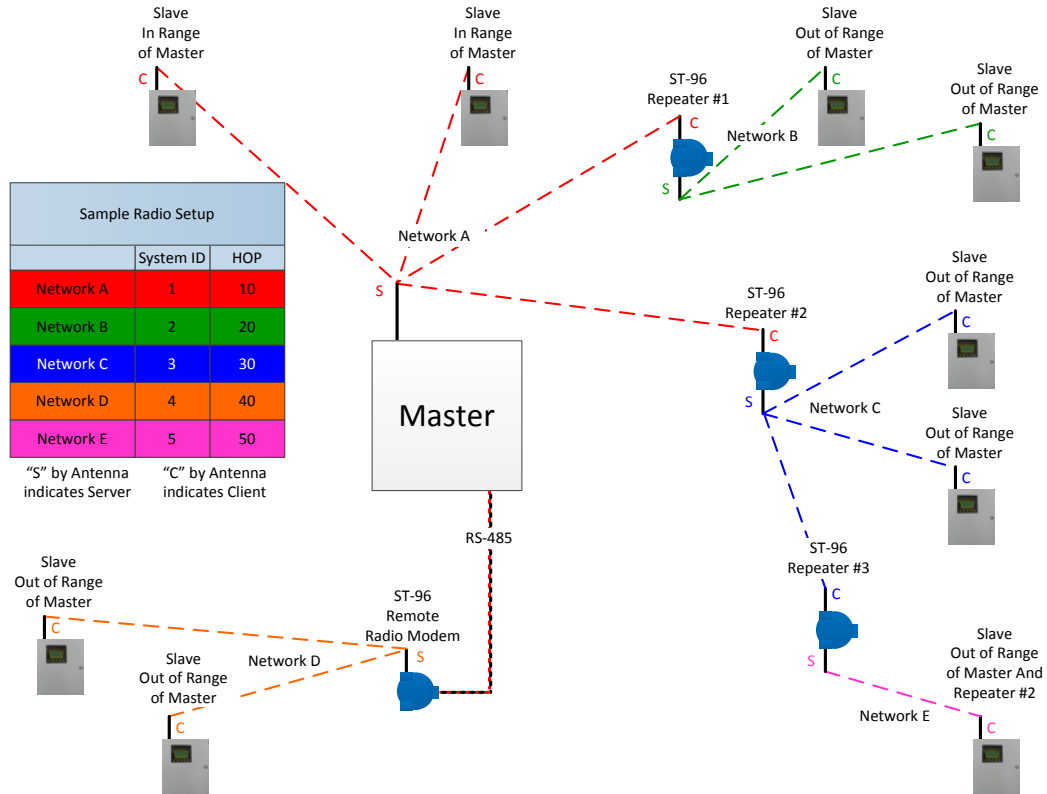

Figure 6-1: ST-96R / ST-96M Collocated Network
- **Mode** may be set for CLIENT or SERVER. For a single ST-96 communicating to multiple transceivers, **Mode** is set to Server (see Figure 6.1). If an application calls for multiple ST-96 radio modems, only one may be set for Server and all others must be Clients. This single Server transmits a beacon for each of this network's Clients to synchronize to.
ST-96R Repeaters are equipped with two radios and should be utilized when the distance between wireless devices is too far, or to go around obstacles that prevent reliable communication. In the example in Figure 6-1, the queries from the Master (base station) are passed through the ST-96R Repeaters to the “Out of Range” Slaves. Slave responses are passed back through the ST-96R to the Master. As shown in the table, there must be separate HOP networks for each side of the ST-96R and all other collocated networks must also be configured with their own unique System IDs and HOP channels (see Section 4.5).
The Master is often the most centrally located device and is therefore configured as the Server. The drawing in Figure 6-1 indicates Servers and Clients with S for Server and C for Client. ST-96R Repeaters in Figure 6-1 are illustrated with 2 antennas and ST-96M Modems with only 1 antenna.